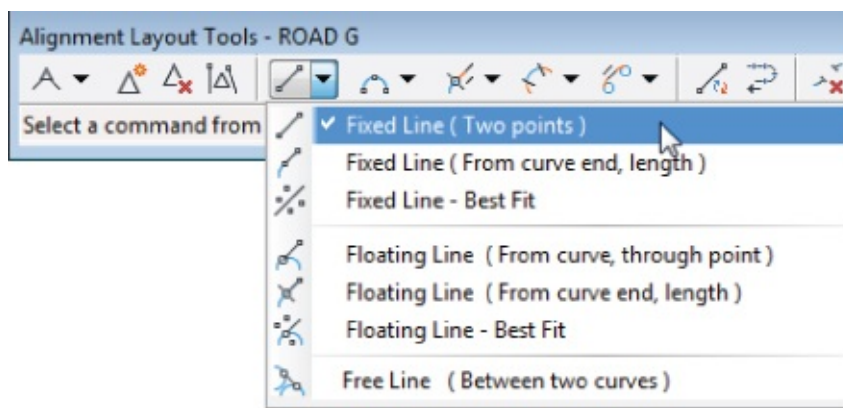

Figure 6.11 The Fixed Line (Two Points) tool
14. Select the Fixed Line (Two Points) tool, as shown in Figure 6.11.